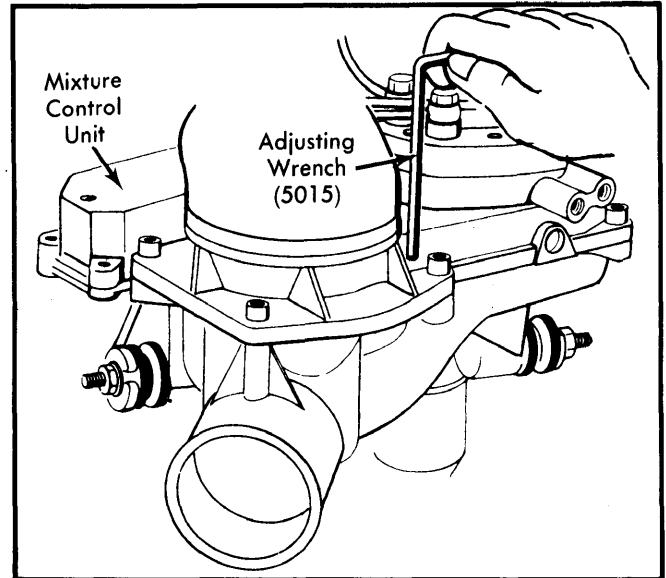

Fig. 3 Idle Mixture Adjustment
3) If CO reading is not within specifications, insert adjusting wrench (5015) into adjustment hole and adjust CO reading to specifications. Reconnect oxygen sensor electrical connector and check CO reading. Repeat adjustment procedure if necessary. See Fig. 3.